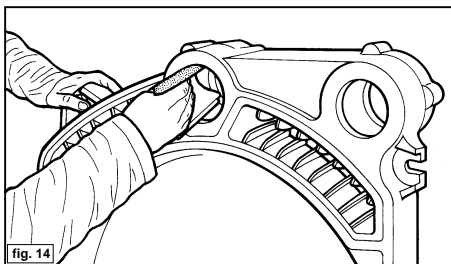

fig. 14
- 2 (fig. 14) Clean the cone insert housings with solvent for grease. Using fine sandpaper, thoroughly clean the cone insert housing on the rear element and then on all the other elements making up the boiler body in order to eliminate any rust.